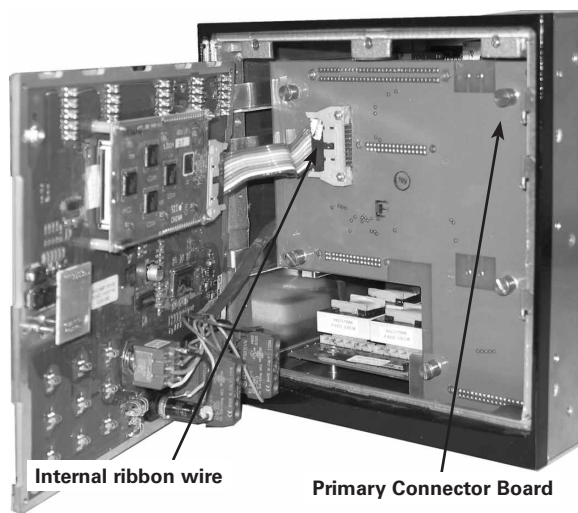

Figure 3. Form 6 control internal ribbon wire.
- E. Remove the four mounting nuts that secure the front of the module to the cabinet (Figure 3).